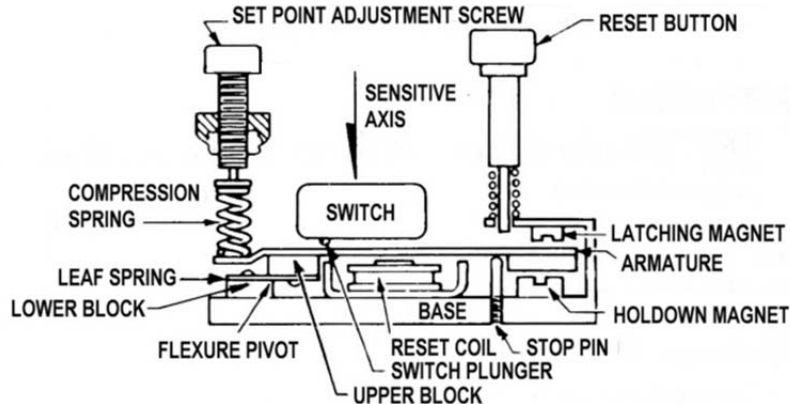

Figure 4.1. Operating Principal for the Vibraswitch[®], Model 365A & E365A
The Model 365A & E365A **Vibraswitch**[®] (Ref. Figure 4.1) is sensitive to vibration in a direction (the sensitive axis) perpendicular to its mounting base. It contains an acceleration sensitive mechanism, which also functions as a “mechanical amplifier”, to activate a snap action switch when the selected level of vibration is exceeded and the detecting mechanism “trips”.
With the equipment on which the **Vibraswitch**® is mounted not operating, back off the SETPOINT adjustment screw counterclockwise (CCW) two (2) turns and press the RESET button. Then turn the SETPOINT adjustment screw slowly clockwise until actuation occurs (the armature assembly is against the latch magnet, Figure 4.1). This is the zero vibration point, or actuating point, with the machine not operating. A mark should be made with a pencil or other convenient means to permanently record this “zero” vibration point. Subsequent measurements are made relative to this point.
5.1 FUNCTIONAL TEST (Ref. Figure 4.1)
2. Broken leaf spring (Refer to Figure 4.1).